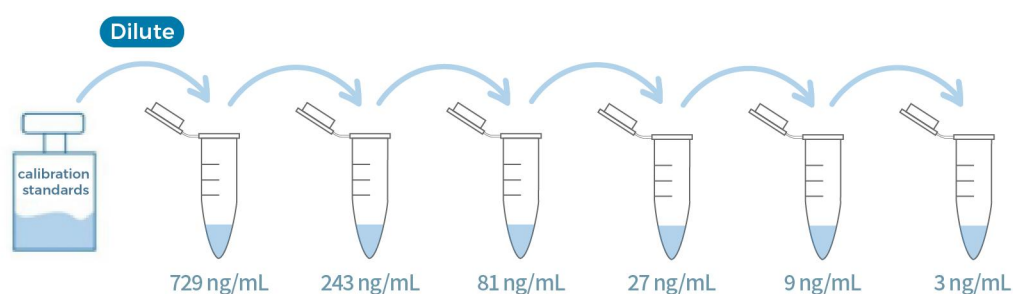

Figure 3. Graphic scheme of *E. coli* HCP-AC Calibration Standard solutions
(3) Preparation of Calibration Standard Solutions
- Prepare *E. coli* HCP-AC Calibration Standard solutions as indicated in Figure 3 and Table 3.